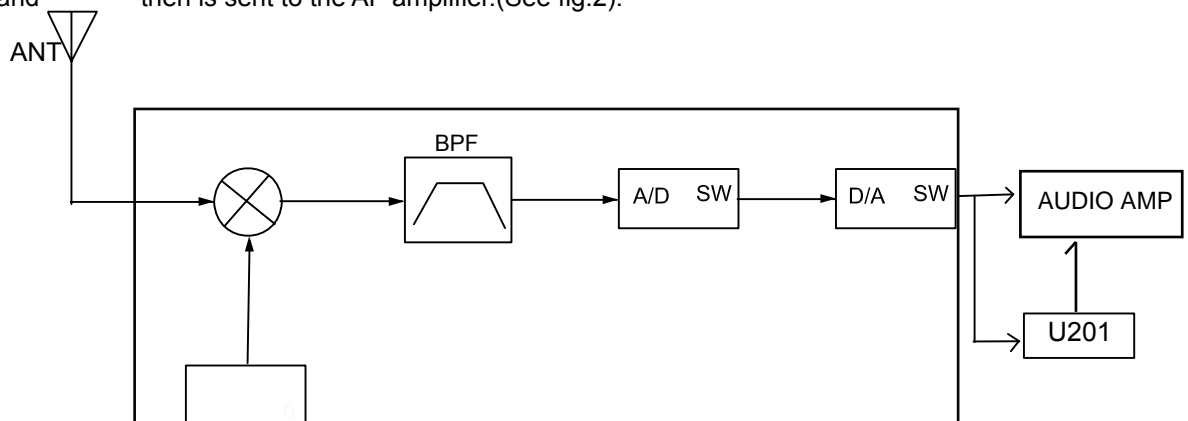

Fig .2
(Completed in RDA1846S) IC in RDA1846S can program to control frequency synthesizer to generate local oscillation and receiving signal, and then mix frequency in image frequency interference suppression mixers to generate IF (intermediate frequency). (See fig.2)
2. DIGITAL channel: signal is sent to band-pass processor (U201) from RDA1846S to be decoded and decompressed to convert to digital signal, and then is sent to the AF amplifier. (See fig.2).